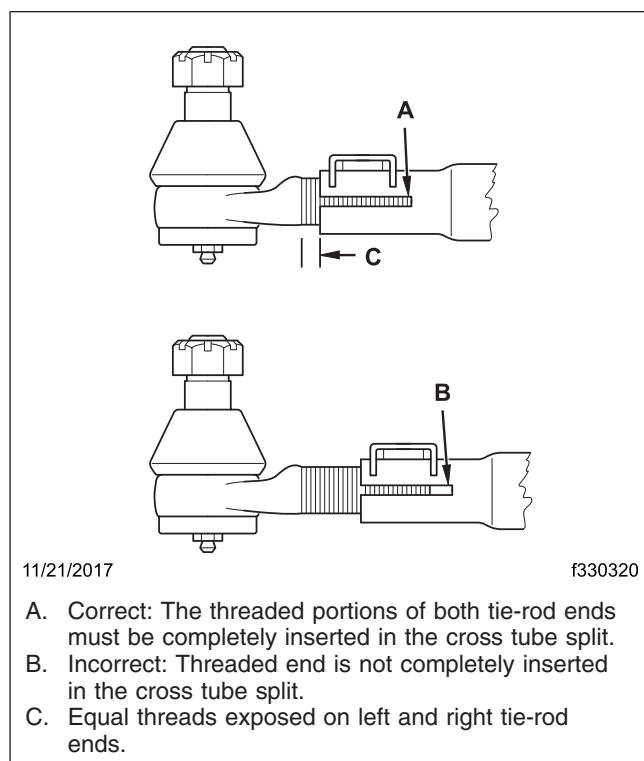

Fig. 24, Tie-Rod End Installation
35. Thread the tie-rod end into the cross tube past the tube split. The number of threads exposed from the tube should be equal on both left and right tie-rod ends. See Fig. 24.